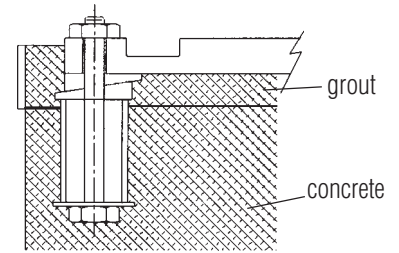

figure 5
1. The foundation that the pump will be sitting on should be strong enough to support the pump as well as absorb any vibration that the pump will produce. A concrete platform should be acceptable. Bolts embedded in the concrete can be placed by using a template or drawing (see figure 5). The use of a pipe sleeve larger than the bolt will compensate for base movement for final bolt location.